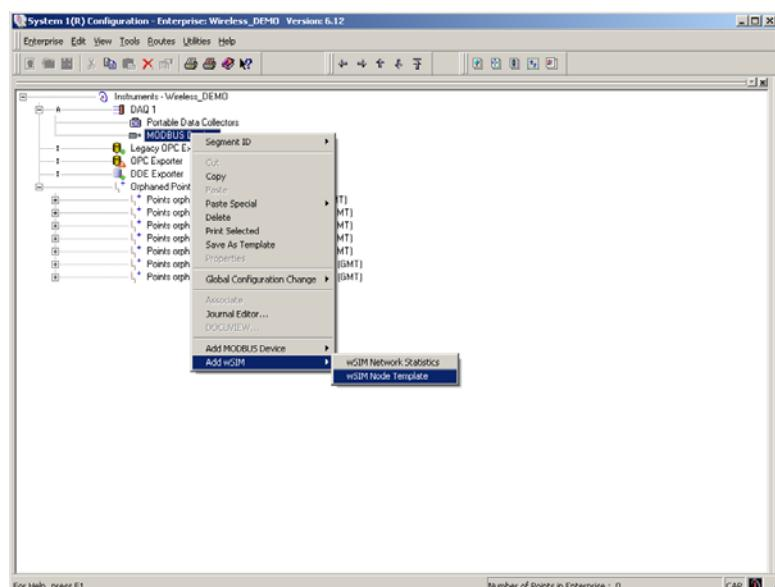

Figure 4-2: Set-Up wSIM Modbus Devices
3. Right click on Modbus Devices >> select Add wSIM >> select wSIM Node Template, see Figure 4-2.